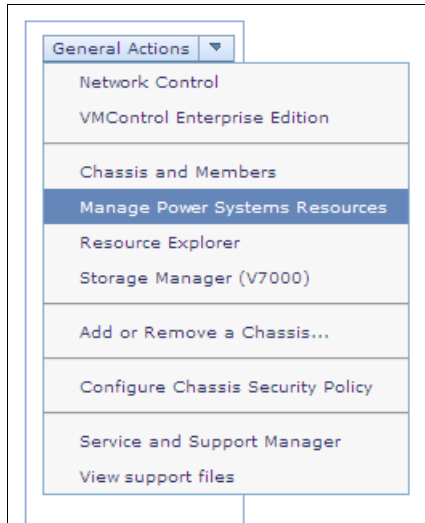

Figure 10-5 *Manage Power Systems Resources*
3. Click **Manage Power Systems Resources** in the menu at the far left of the chassis graphical view as shown in Figure 10-5.